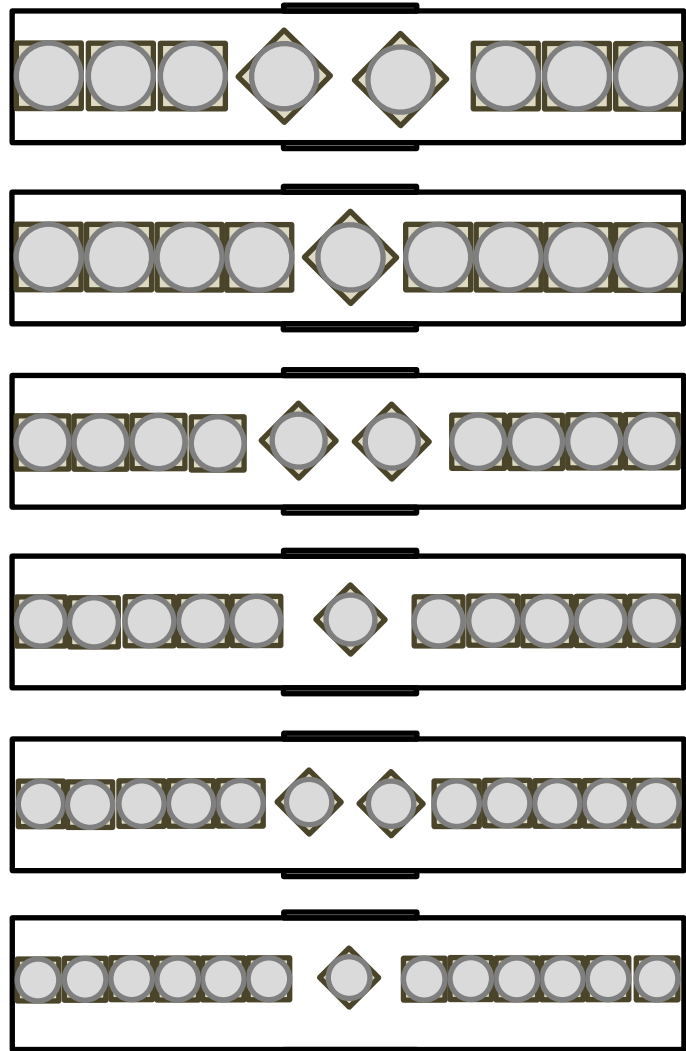

Figure 8.6
8.6.4 Load coils down the center of the car with the platforms/skids abutting one another, as shown in Figure 8.6. Note that the doorway unit(s) may be positioned at an approximate 45° angle to the car sides. Some variation may be necessary depending on the weight and number of coils being loaded. Loads having an even number of coils will have 2 coils loaded diagonally in the doorway. Loads having an odd number of coils will have one coil loaded diagonally in the doorway. See Figure 8.6.